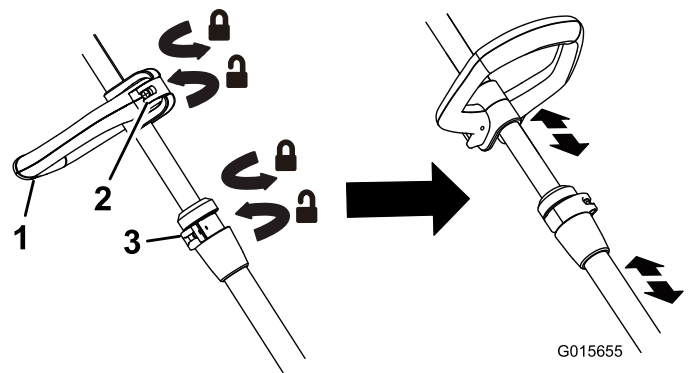

Figure 4
- To adjust the auxiliary handle height, release the auxiliary handle latch, slide the auxiliary handle up or down to the desired height, then secure the auxiliary handle in place by closing the auxiliary latch (Figure 4).
- To adjust the trimmer height, open the height adjustment latch, then slide the shaft up or down to desired height, securing it in place with the latch (Figure 4).